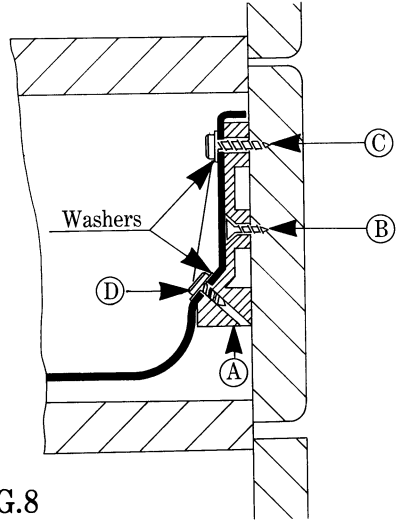
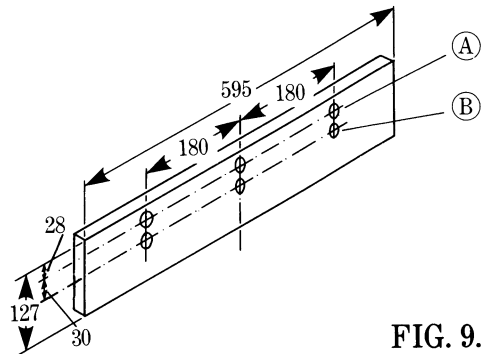

FIG. 8
FIG. 9.
- 1) Firstly, secure the plastic spacer (A - Fig. 8) to the furniture drawer front by using the three flathead wood screws (B - Fig. 8) at the dimensions shown on the drawer front (line B - Fig. 9).
- 2) Now attach the drawer basket through the plastic spacer to the drawer front using the three long wood screws with washers (C - Fig. 8) to the dimensions shown (line A - Fig. 9) and using the three self-tapping screws (D - Fig. 8) secure the drawer basket to the spacer.